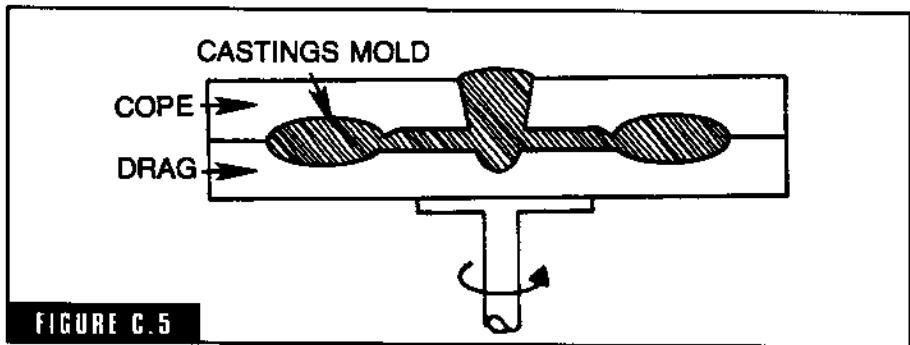

FIGURE C.5
**centrifuging** The process of casting whereby the metal is driven into mold cavities which are located off the center of rotation (Fig. C-5). These can be single or multiple cavities. The mold material